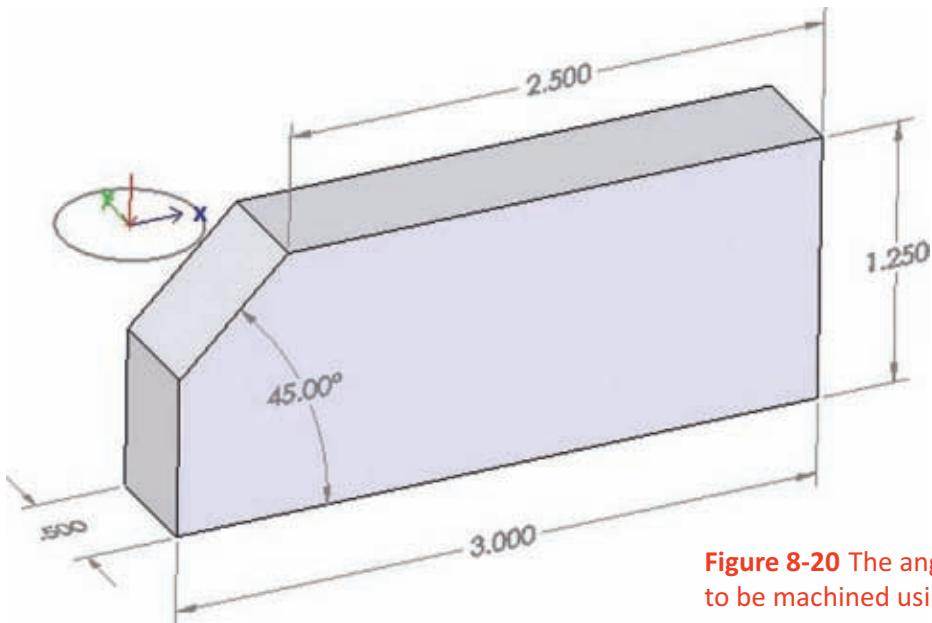

Figure 8-20 The angle on this part is going to be machined using 3D cuts.
31. You can complete 3D cutting on a conventional milling machine. (see Fig. 8-20)
Let's consider how to program the angle cut on the part shown in Figure 8-20.